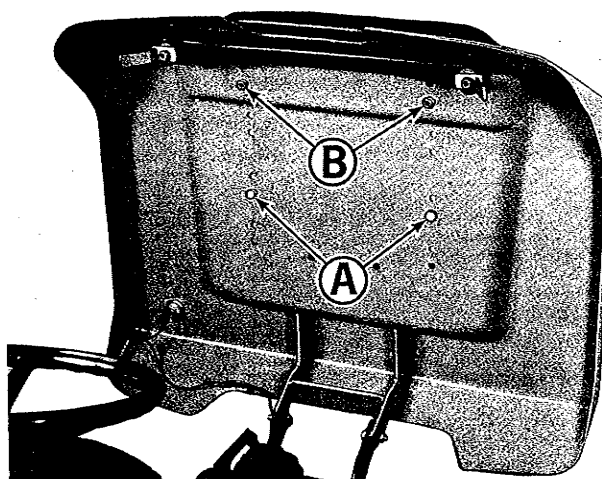
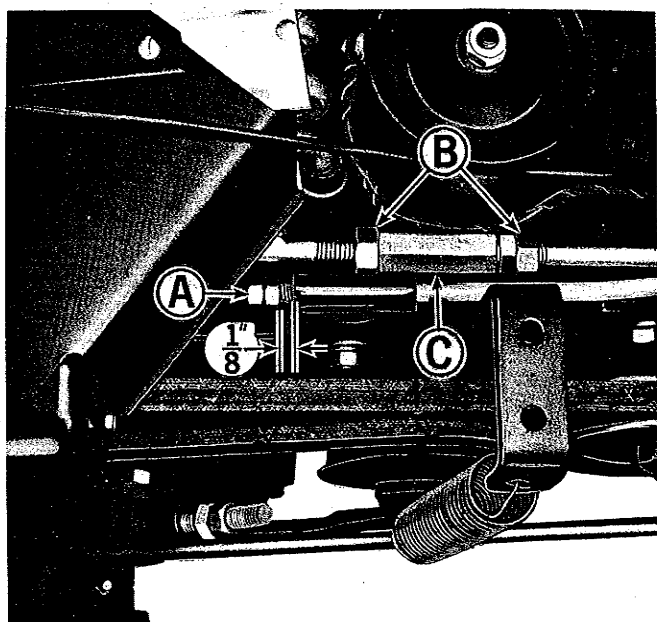

Figure 9. Seat deck raised.
Figure 10. Clutch free travel and hydrostatic transmission neutral adjustment.
locks out raise the seat deck as shown in figure 9. Raising the seat deck in this manner will expose many of the transmission adjustment and maintenance areas.
See figure 9. The tractor seat is properly adjusted when the operator can comfortably operate the clutch and brake pedal while sitting back in the seat. The seat can be adjusted forward or back in any of four positions. If adjustment is required, proceed as follows:
1. See figure 9. Position the seat deck as shown by following the instructions under Raising the Seat Deck on page 10.
2. Remove the two cap screws and lock washers at (A).
3. Remove the two nuts and lock washers at (B).
4. If the seat is to be positioned in either of the two forward sets of mounting holes the two rubber spacers are placed over the studs at (B) and used between the seat and seat deck. If
See figure 10. The clutch free travel is correct when there is  $1/8''$  between the nuts (A) and the rod guide when the clutch brake pedal is released and pulled rearward as far as it will go. If adjustment is required, proceed as follows:
1. Raise the seat deck as shown in figure 9, by following the instructions under Raising the Seat Deck on page 10.
2. Using two wrenches hold the forward nut at (A) stationary with one wrench while turning the rearward nut counter-clockwise slightly with the other to separate them.
4. Turn the forward nut at (A) as necessary so that the distance between it and the rod guide is  $1/8''$  as shown in figure 10.
5. Using two wrenches hold the forward nut at (A) stationary while turning the rear one clockwise to tighten the two nuts together securely.
3. See figure 10. Loosen the two locking nuts (B) on either end of turnbuckle (C).
7. Jack up and block the rear of the tractor, so the rear wheels are free to turn. Use an open end wrench to rotate the turnbuckle (Figure 10, item C) until the rear wheels do not rotate. When the rear wheels do not rotate when the engine is running at  $1/3$  full speed, the hydrostatic neutral adjustment is correct.
9. See figure 10. After allowing the belt and pulleys to stop turning, use two wrenches to tighten the locking nuts (B) against turnbuckle (C). Tighten the locking nuts (B) one at a time, while using the other wrench to hold turnbuckle (C) from rotating.